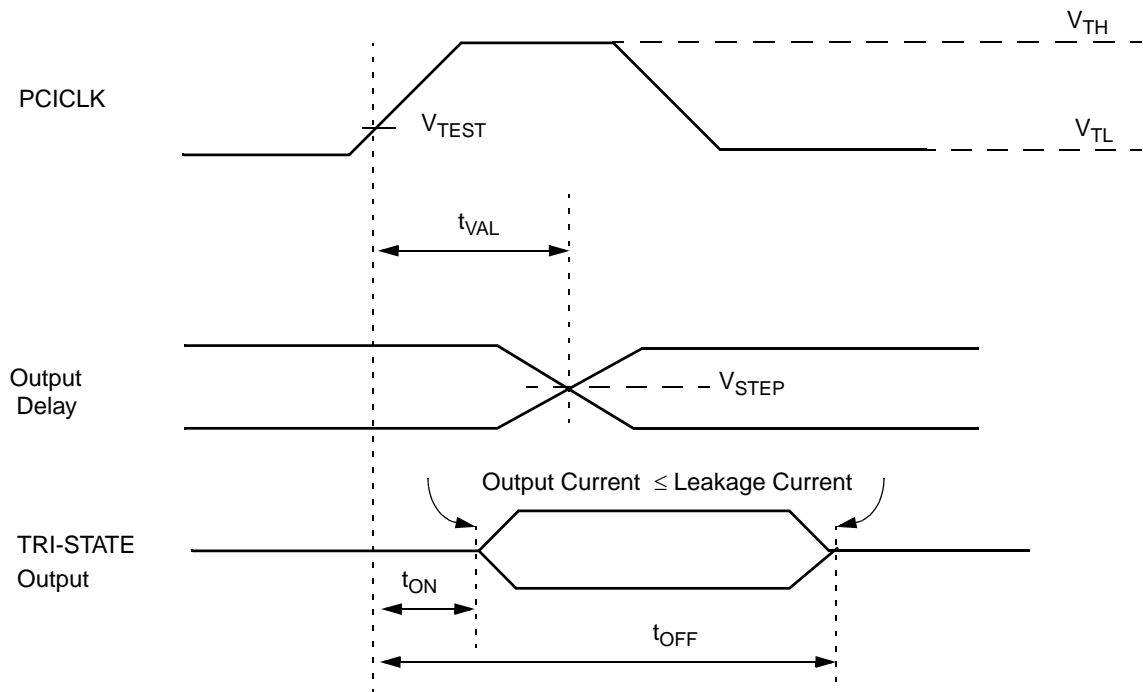

Figure 7-14. Output Timing Measurement Conditions
1. See the timing measurement conditions in Figure 7-14.